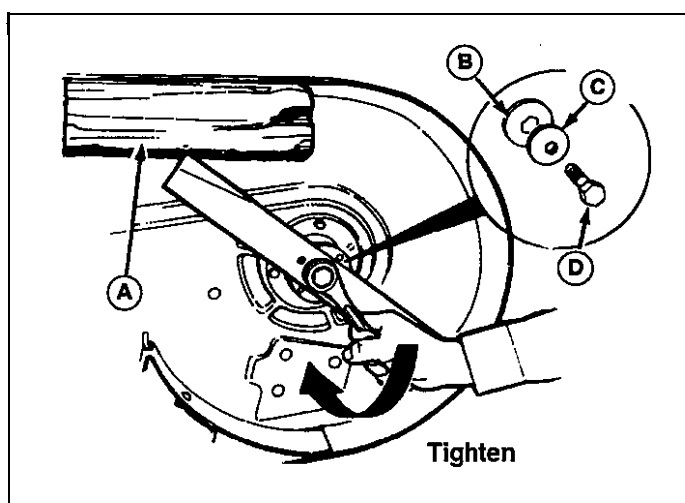

Figure 24. Installing The Blade
6. Reinstall each blade with the tabs pointing **up** toward deck as shown in Figure 24. Secure with a capscREW, spring washer and hex washer. Use a wooden block to prevent blade rotation and torque capscrews to 50-70 ft.lbs. (67-95 N.m.).